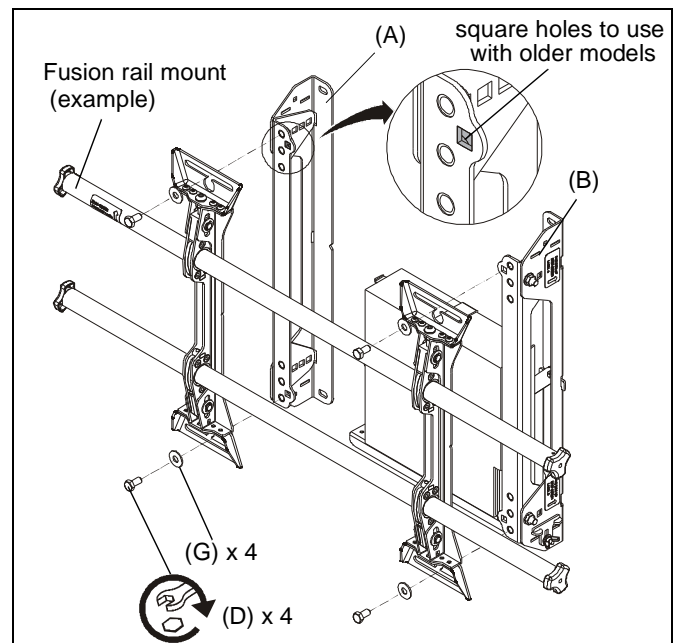

Figure 8
- Use four 5/16-18 x 5/8" hex head bolts (D) and four 5/16" washers (G) to secure Fusion rail mount to brackets (A and B). (See Figure 8)
**NOTE:** For some older Fusion models, four 5/16-18 X 3/4" round head carriage bolts (P) and four 5/16" hex nuts (Q) must be used to attach fusion mount to FCA113 using the square holes on FCA113 brackets. (See Figure 8)